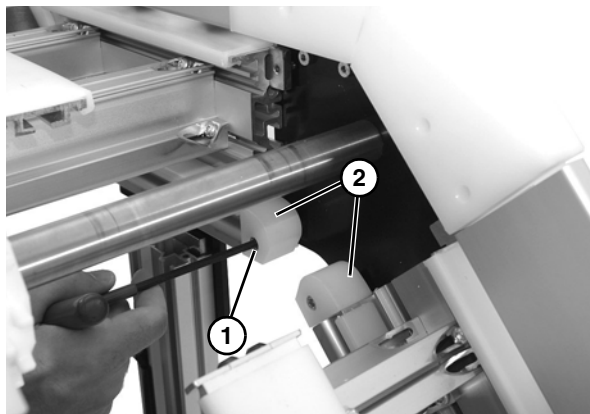

Figure 69
3. Remove socket cap screw (**Figure 69, item 1**) for each belt guide (**Figure 69, item 2**) on side of upper knuckle assembly. Repeat on opposite side.